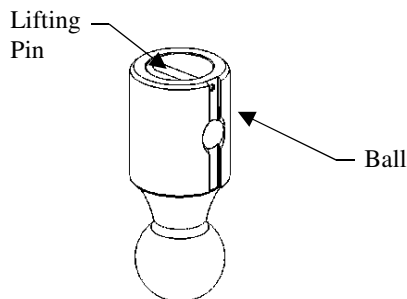

Figure 5
10. With the ball in the stored position (see figure 5). Check for clearance between ball and truck equipment (I.E. differential, brake lines, electrical lines, and others) by measuring from axle up to rubber bumper stop and from ball to nearest item. If insufficient space is present, inform customer not to store ball in the head when carrying heavy loads. The axle to the rubber bumper stop distance should be less than the ball to nearest item.